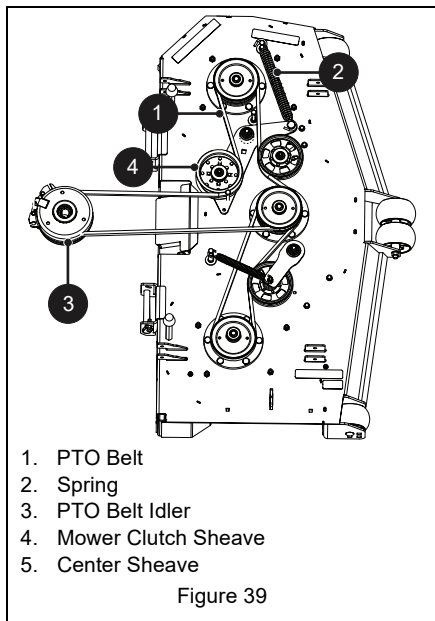

Figure 39
See Figure 39.
1. Install PTO belt around deck sheaves. Route belt according to the decal located on the bottom of the floor pan. See Figure 39.